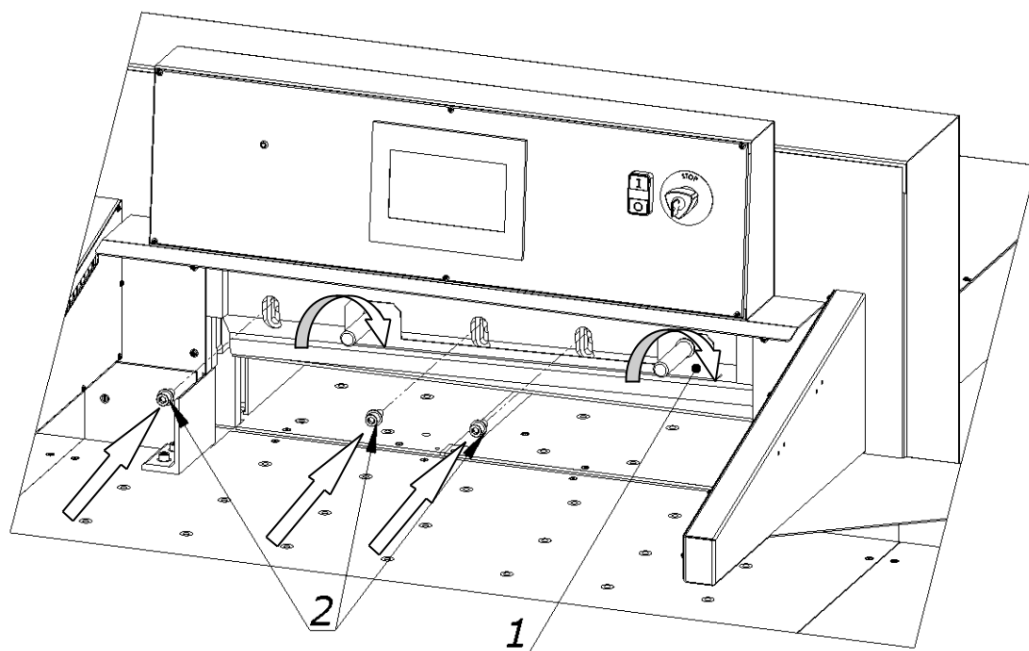

Figure 32.
8.1.2.4 Pre-attach the knife to the cutter bar by turning both transporting handles (1) to the right (fig. 32).
8.1.2.5 Install the fastening screws (2, fig. 32).
8.1.2.7 Slightly unscrew the first screw on the left side of the clamping screw (2, fig.32), taking care that the screw head does not protrude above the knife beam sliding plane.
8.1.2.19. Firmly tighten the first screw on the left side of the knife (2, Fig. 32).